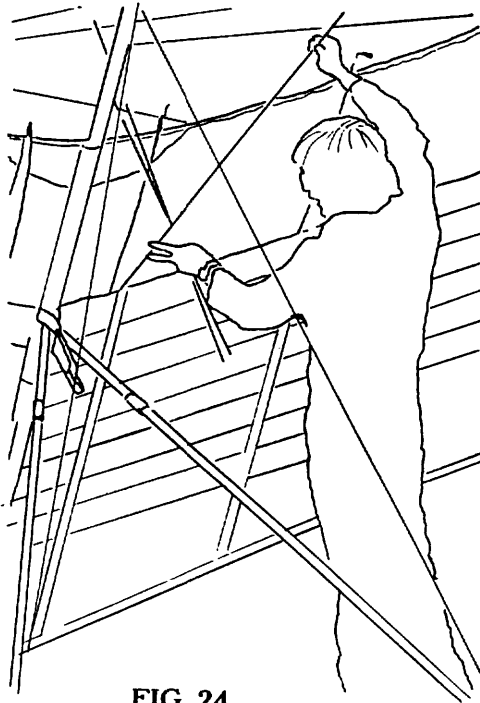

FIG 24
17) Install the bottom surface battens. If the wind is less than 10 mph, this is done most easily by putting the nose down (into the wind.) (Fig 24) The order of the bottom surface battens is longest to shortest, from the root out. When the front of the batten reaches the leading edge seam, you may have to press upward on the batten in order to allow it to clear the seam. Push the batten all the way into the pocket until the rear end is flush with the rear of the pocket. The strings on the rear ends of the bottom surface battens are to facilitate removal of the battens from the sail during beakdown. The bottom surface battens are not secured in the sail. Be sure that the battens go under the leading edge tube, and do not rest on top.